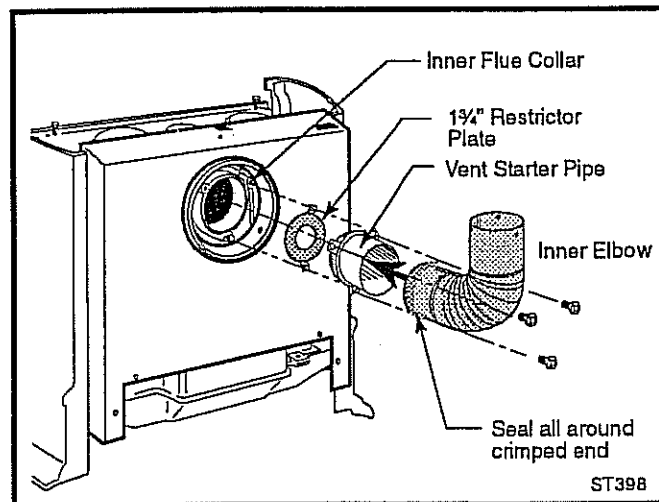

Fig. 41 Install restrictor plate and starter pipe/inner elbow assembly.
Note that all vertically terminated installations must use the 1 3/4" Restrictor Plate included in the hardware bag. The plate must be installed within the firebox Inner Flue Collar to insure that a proper air/fuel ratio is maintained in an appliance vented through the roof. (Fig. 41)
Apply sealant to the crimped end of the inner elbow and attach it to the Starter Pipe with three sheet metal screws. (Fig. 41)
4. Install the Restrictor Plate and Starter/Inner Elbow Pipe assembly into the inner flue collar as using the three 1/4-20 x 1/2" phillips screws as shown in Figure 41.